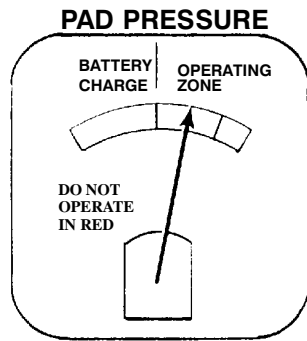

FIG. 9.
1. Your machine has a pad pressure meter located on top of the control console. This meter has one green bar and 2 red bars (Figure 9):